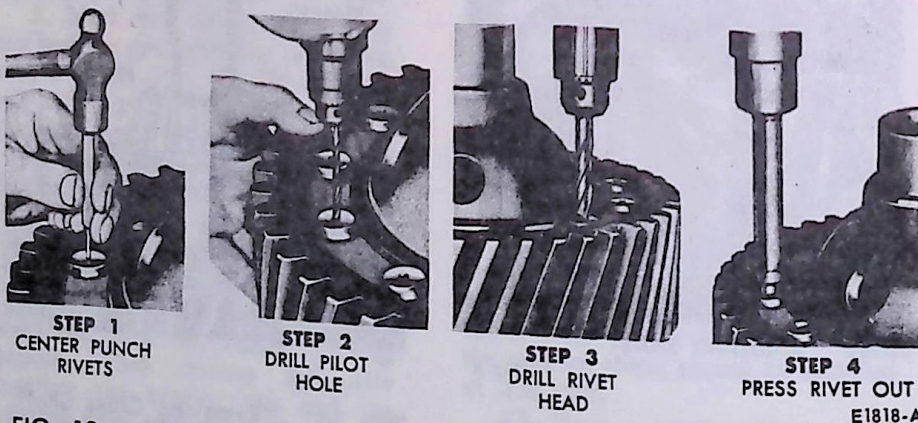

FIG. 19 Removing Differential Case Rivets
3. Separate the helical drive gear and the two case halves. If rivets are used to hold these parts together, center-punch the head of each rivet as close to the center of the rivet head as possible (Step 1, Fig. 19). Drill a 1/8 inch pilot hole at each center punch mark (Step 2), and then drill a 1/2 inch hole into each pilot hole to a depth of 1/2 inch (Step 3). Press out all the rivets with a 1/2 inch punch (Step 4). Do not attempt to remove the rivets with a hammer and chisel.